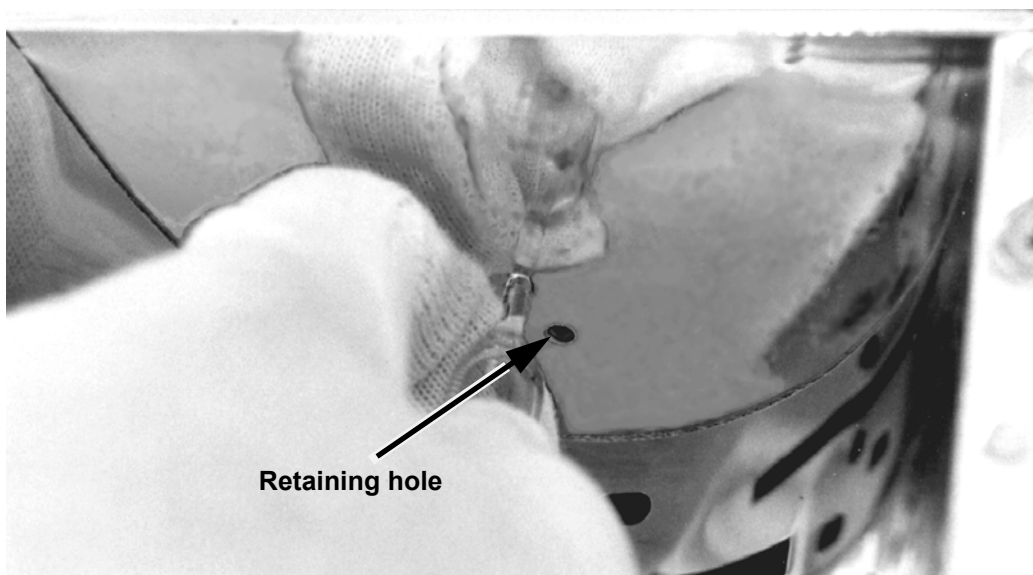

Figure 21. Removing or Replacing the Bulb
2. Next, see Figure 21 on page 82. Using clean cotton gloves or lint free tissue, grasp the lamp bulb at one end between the thumb and fingers and apply firm pressure axially toward the opposite end. When the tip of the bulb has cleared its retaining hole and is free to move past or along the end reflector, gently slide it up and out.